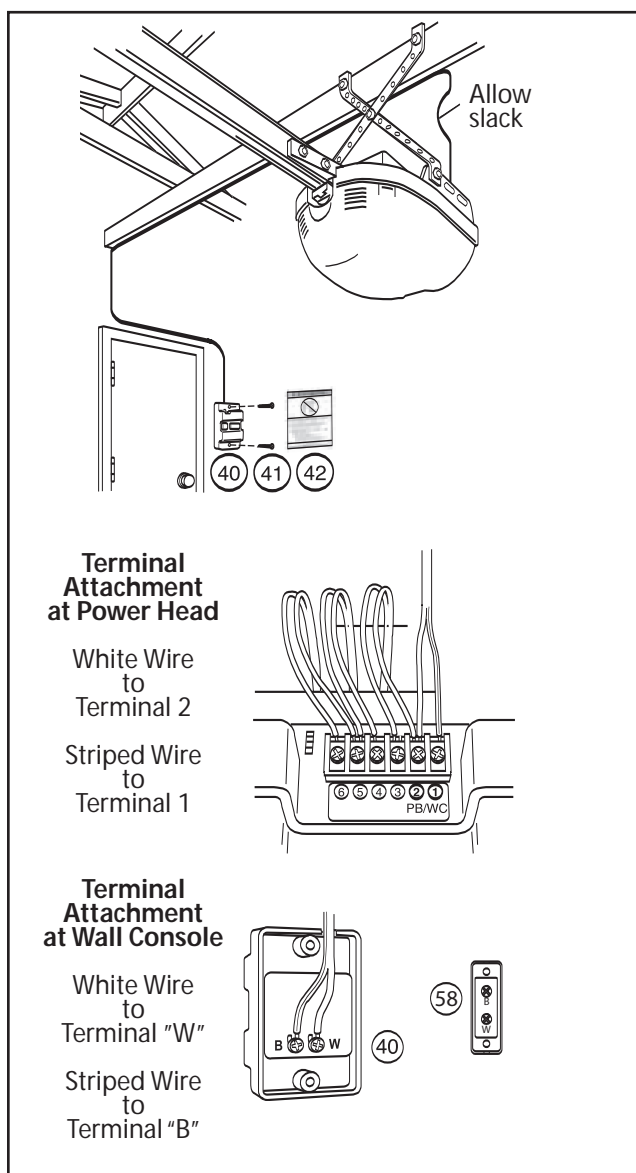

Figure 31 Install Wall Control with Entrapment Warning Label
- D Wire Wall Controls to Opener (Figure 31):**